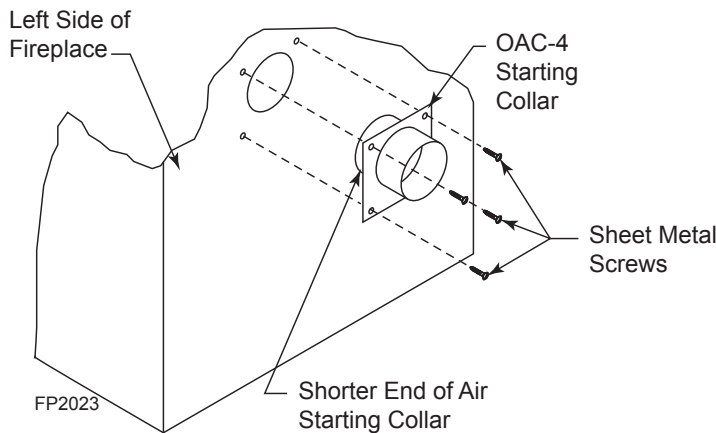

Figure 12 - Attach Outside Air Starting Collar to Left Side of Fireplace
2. Place starting collar (4") into hole on left side of fireplace. Fireplace shortest side of air starting collar through fireplace outer wrap. Fasten starting collar in place with four (4) sheet metal screws provided. *Figure 12*